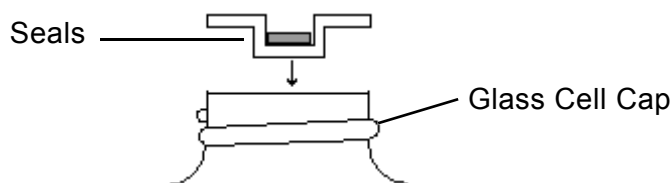

Figure 11. Placing the PTFE Seals
- 2 Place the two seals into the top of each glass cell cap as shown in Figure 11.